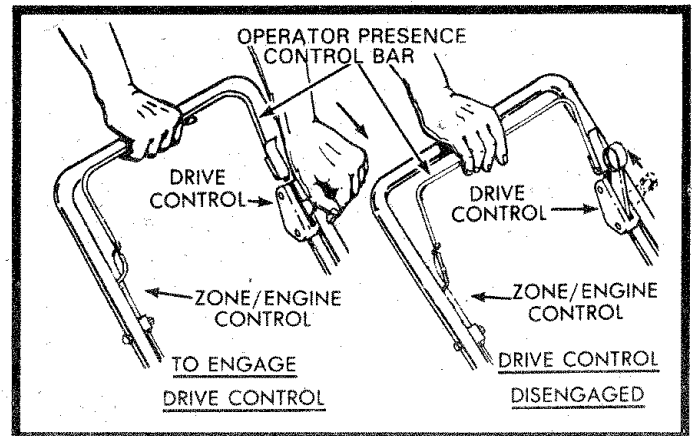

FIG. 7
- Self-propelling is controlled by holding the operator presence control bar down to the handle and pushing the drive control lever forward until it clicks; then release the lever (See Fig. 7).